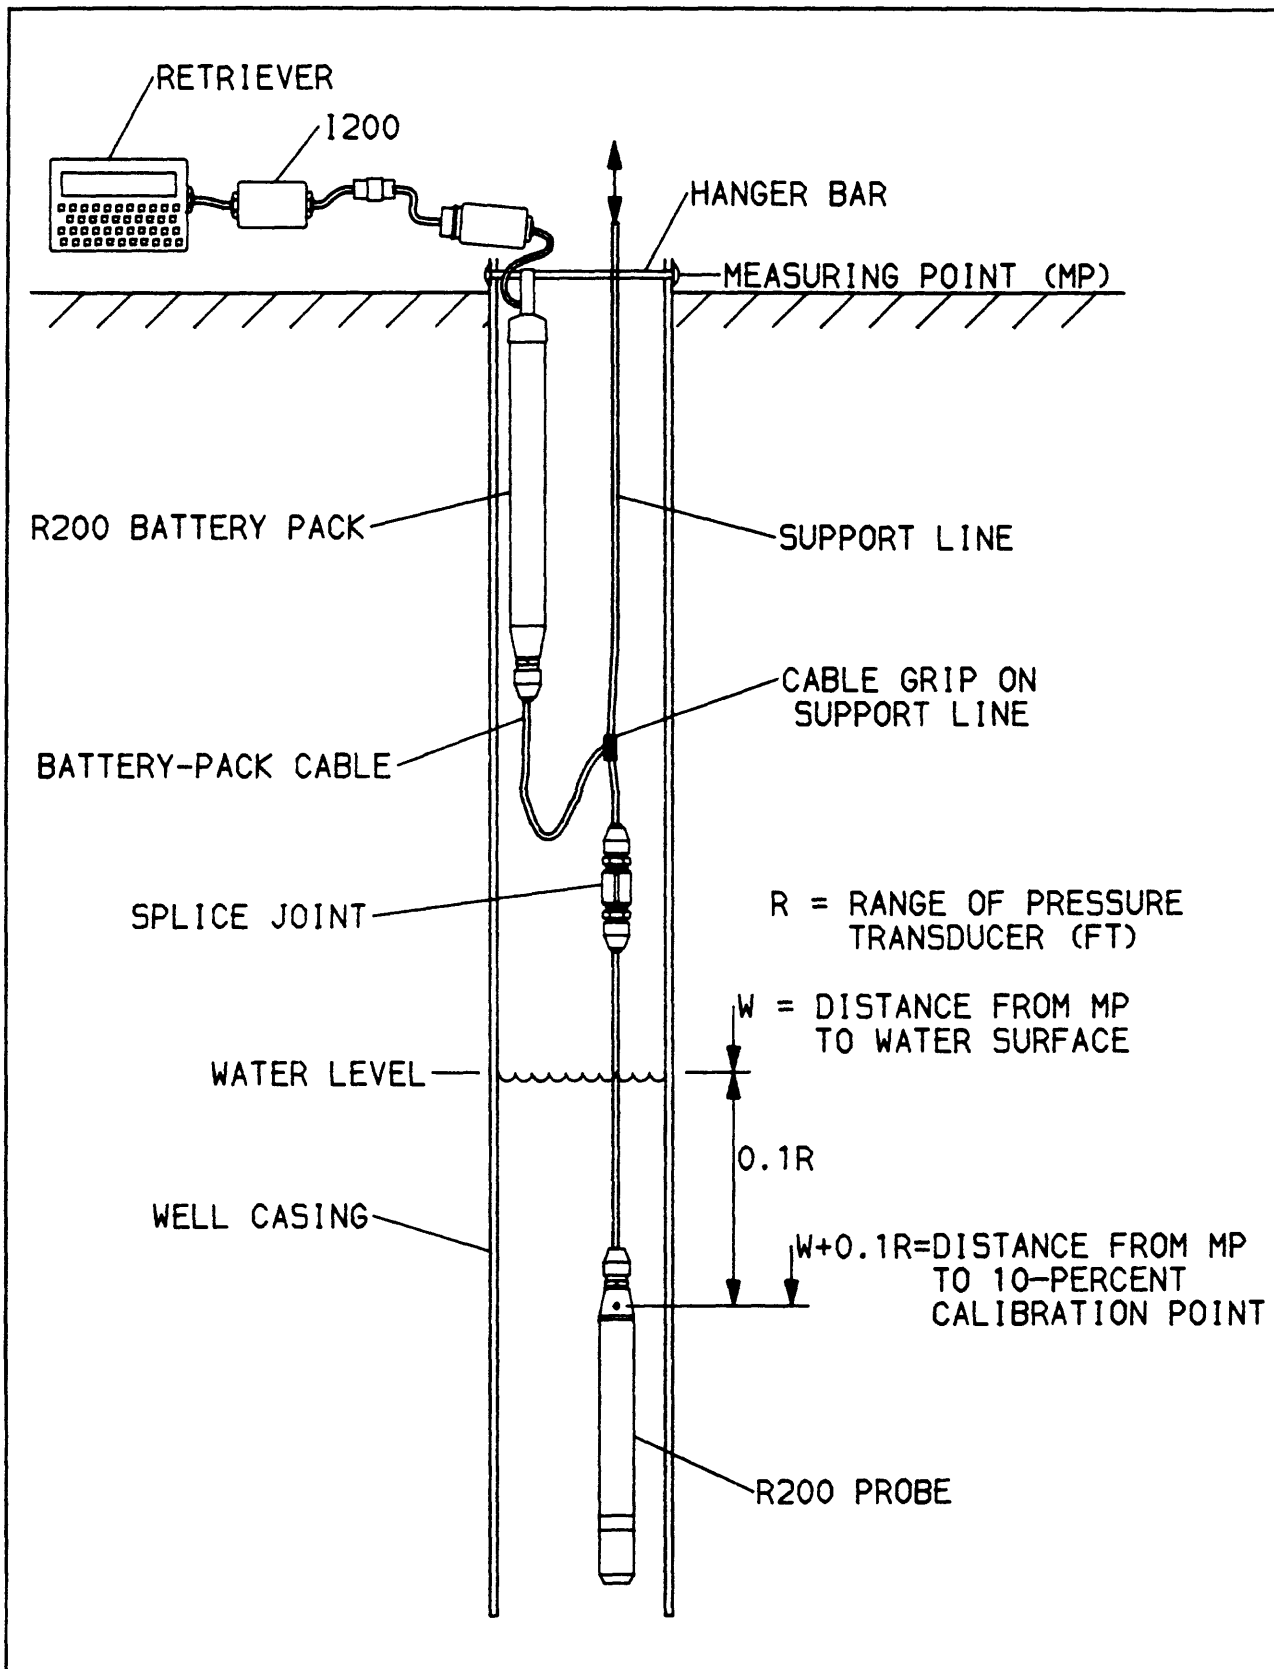

Figure 9.--Use of support line for in-well calibration at the 10-percent calibration point.
**NOTE:** During the in-well calibration procedure, it may be desirable to use a support line for raising and lowering the probe to the required positions. This calibration method is depicted in figure 9 for the 10-percent calibration point.